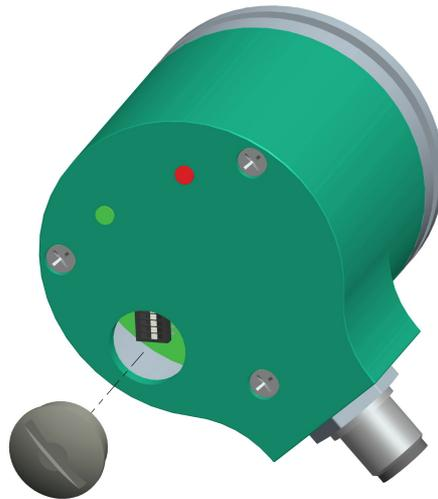
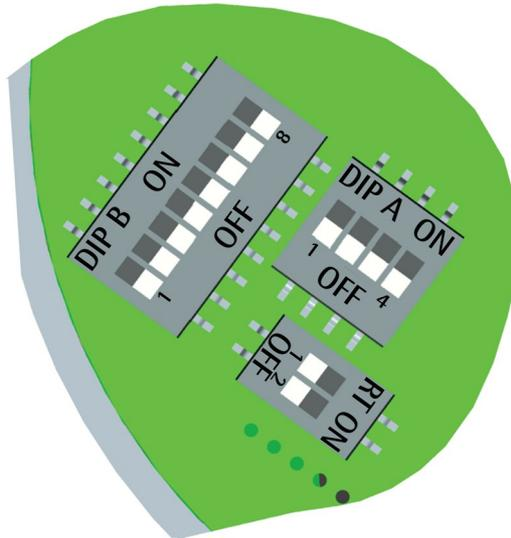

Figure 2: Reaching the DIP switches
Figure 3: DIP switches
4.5 DIP switches (Figure 2 and Figure 3)
4.5.1 Setting data transmission rate: Baud rate and Parity bit (Figure 3)
4.5.2 Setting the node address (Figure 3)
4.5.3 Termination resistor (Figure 3)
- set the data transmission rate (baud rate and parity bit; see the "4.5.1 Setting data transmission rate: Baud rate and Parity bit (Figure 3)" section on page 26); the default value set by Lika Electronic at factory set-up is "baud rate = 19200 bit/s, parity = Even";
- set the node address (node ID; see the "4.5.2 Setting the node address (Figure 3)" section on page 27); the default value set by Lika Electronic at factory set-up is "1";